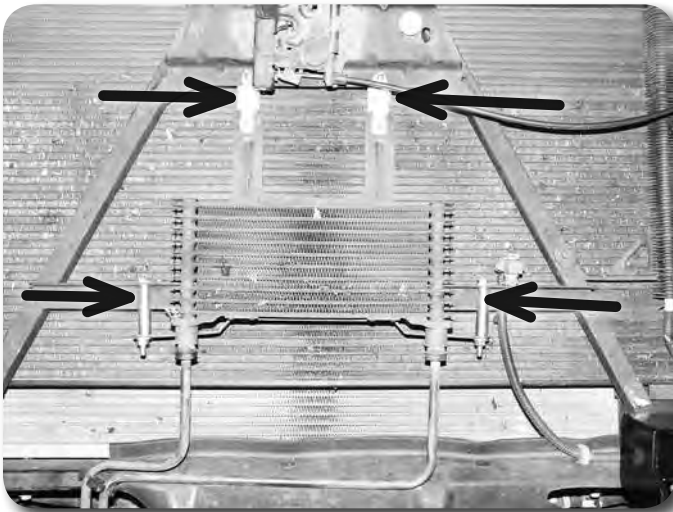

Figure 23
55. Position the provided oil cooler spacer sleeves ($\frac{1}{2}$ " OD x 2" Long) between the two bottom oil cooler mounting tabs and the original mount on the core support **Figure 23**. Fasten the spacers and cooler to the core support with the provided $\frac{1}{4}$ " x 3" bolts, nuts and $\frac{1}{4}$ " USS washers. Torque to 15 ft-lbs.
56. Mount the cooler lines back in the plastic retaining clip at the bottom of the core support **Figure 23**.